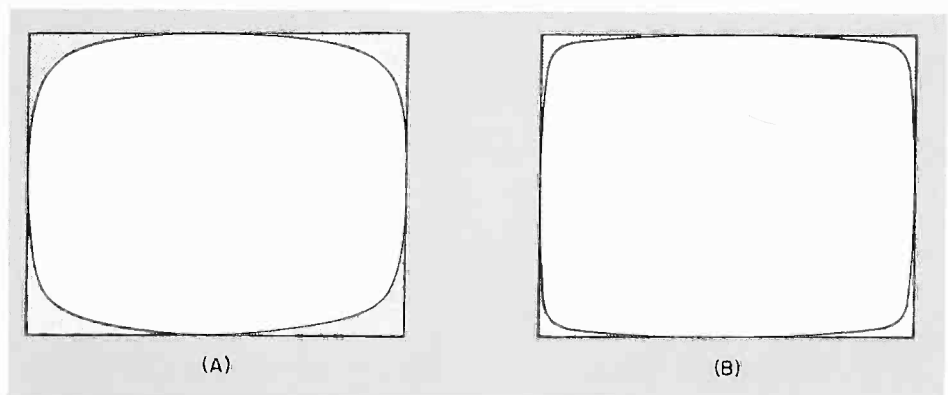

Figure 4
5. There is improved picture contrast. When the rounder screen of a standard picture tube is fully scanned horizontally and vertically, the corners are being over-scanned. The amount of overscan is shown in Figure 4-A by the shaded areas. The electrons represented by these shaded areas strike the walls of the bulb where they are reflected to the screen. The effect is reduced picture contrast, particularly in the corners of the screen. The straighter sides and squarer corners of the Bonded Shield design appreciably reduce the amount of corner overscan (B), and measurably improve picture contrast.